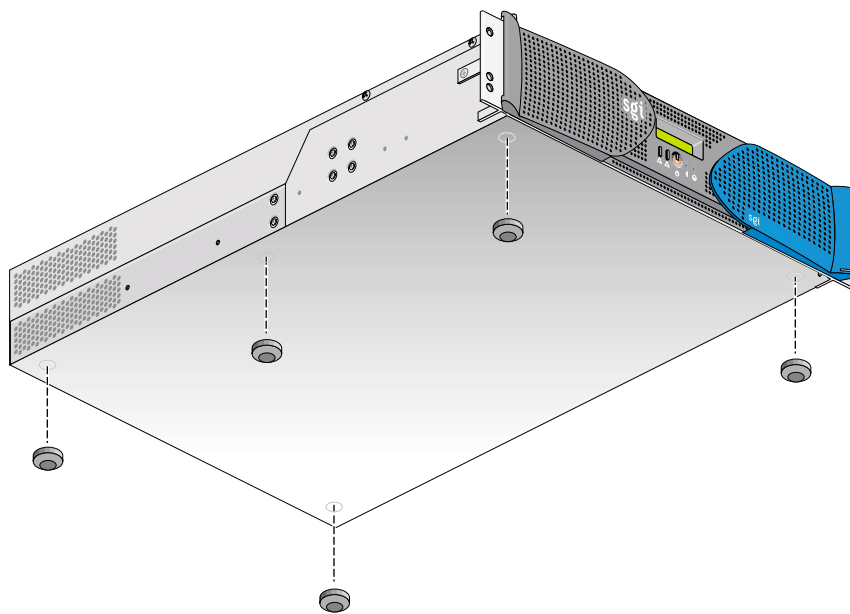

Figure 1-11 Location of Table-mounting Feet
2. Peel off the protective film from the feet and place them on the five circular marks, as shown in Figure 1-11.